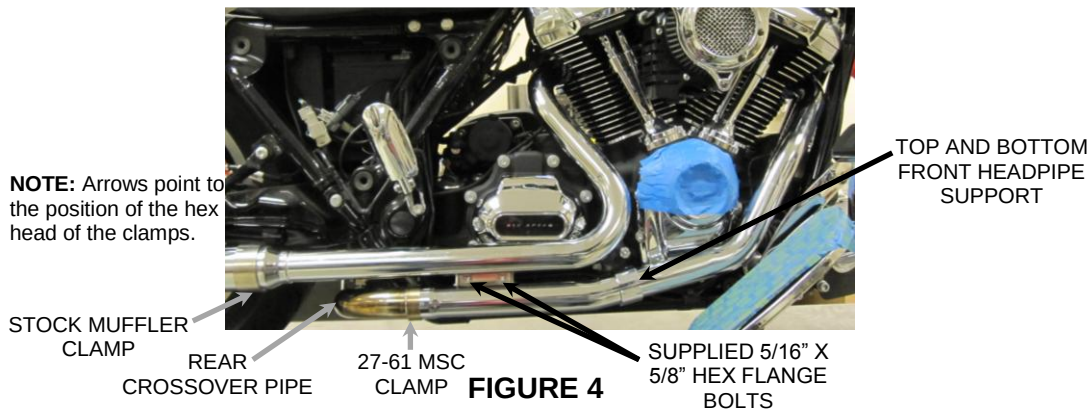

FIGURE 4
8. Install the right side muffler onto the rear headpipe and reinsert the (2) stock 5/16-inch bolts into the rear muffler mount. Make sure the stock clamp is positioned over the slip of the muffler so that the hex bolt is inward and down. See **FIGURE 4**. **Do not tighten** clamps or bolts.
10. Align the bracket on the front headpipe with the bracket on the rear headpipe and insert the 2 supplied 5/16 x 5/8" long hex flanged bolts through the rear headpipe bracket into the threaded pems on the front headpipe bracket. See **FIGURE 4**. Snug the bolts but **DO NOT TIGHTEN** at this time.
13. Install the left rear crossover pipe onto the front headpipe making sure it slides into the outlet of the front headpipe outlet as far as possible. See **FIGURE 4**.
18. Then fully tighten the (2) 5/16 hex flange bolts on the front and rear headpipe brackets. See **FIGURE 4**.